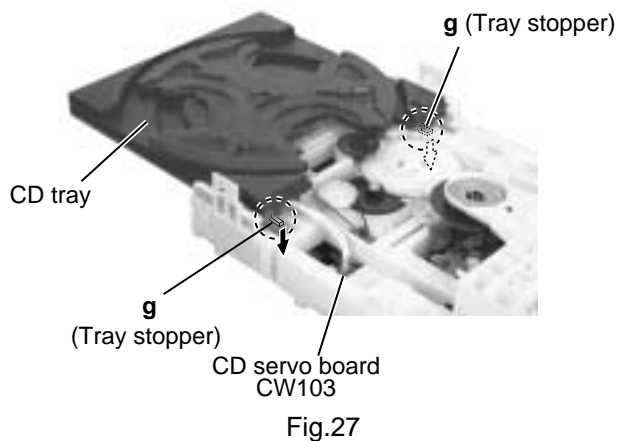

Fig.27
1. Align the gear-cam with the gear-tray as shown fig.27, then mount the CD tray.